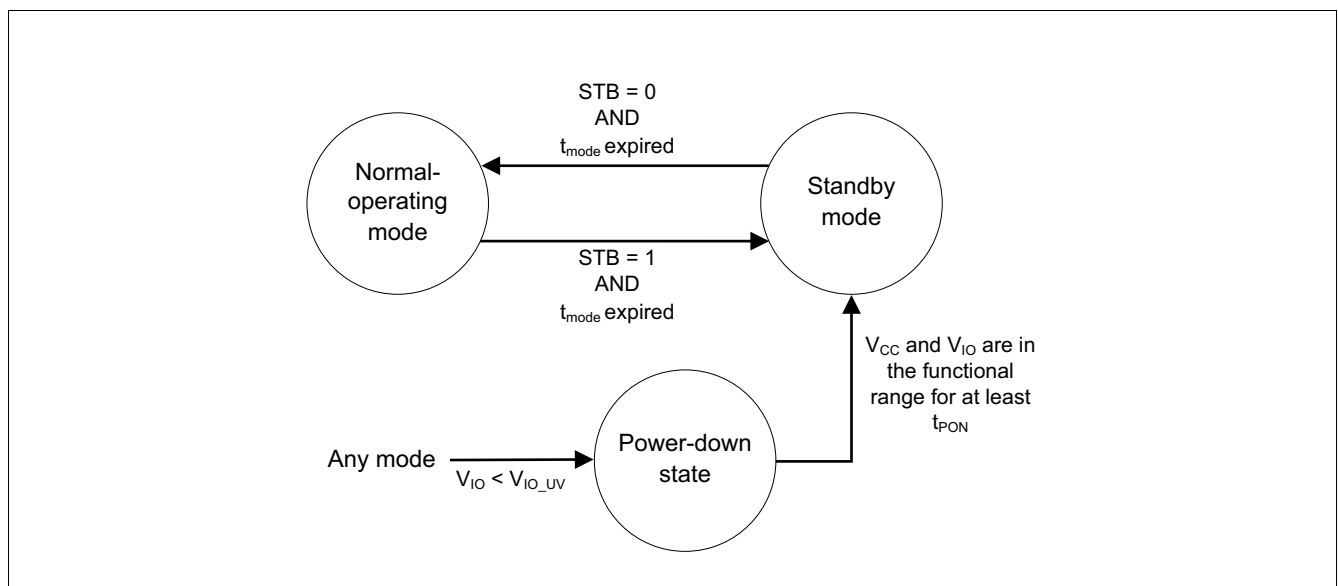

Figure 4 Mode state diagram
The device supports the following modes of operation, see Figure 4:
- If  $V_{IO} > V_{IO\_UV}$  and the STB pin is “low”, then the device enters normal-operating mode after  $t_{Mode}$  from standby mode, see Figure 4